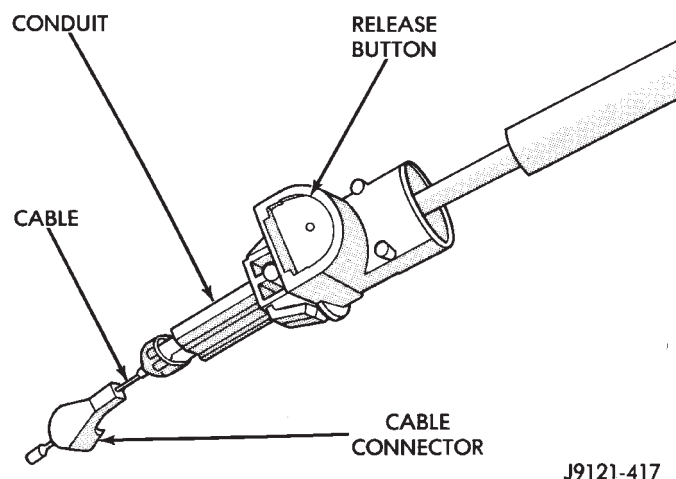

Fig. 44 Throttle Cable Components
- (1) Shift transmission into Park, shut engine off and raise hood.
- (2) Press cable release button (Fig. 44).